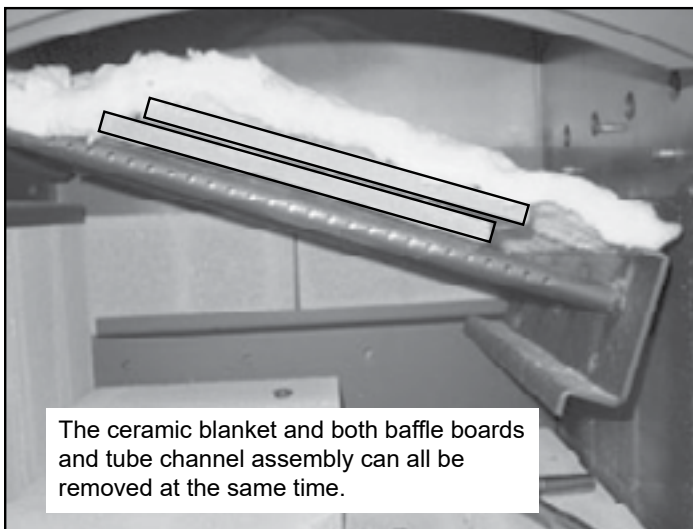

Figure 23.2
4. Slide the tube channel assembly to the left as far as it will go and lower the right side. Remove the baffle boards and ceramic blanket together (**Figure 23.2**).